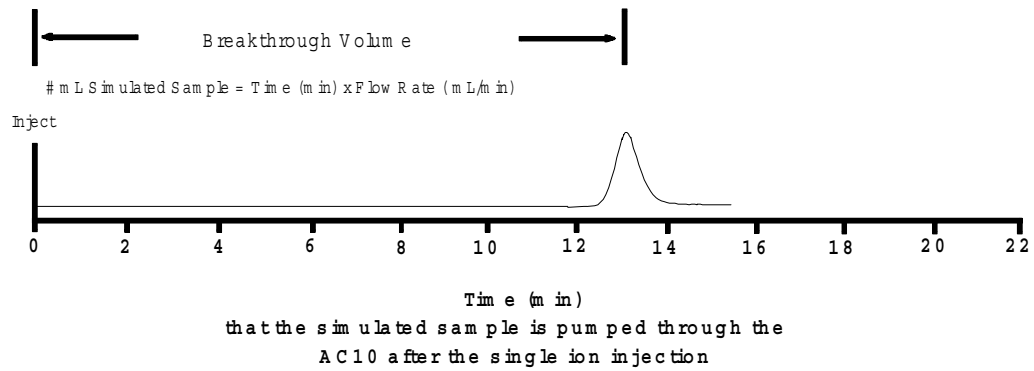

Figure 6
- E. Record the resulting chromatogram and calculate the breakthrough volume**, as shown in the example in Figure 6, “Example Determination of the Breakthrough Volume.”